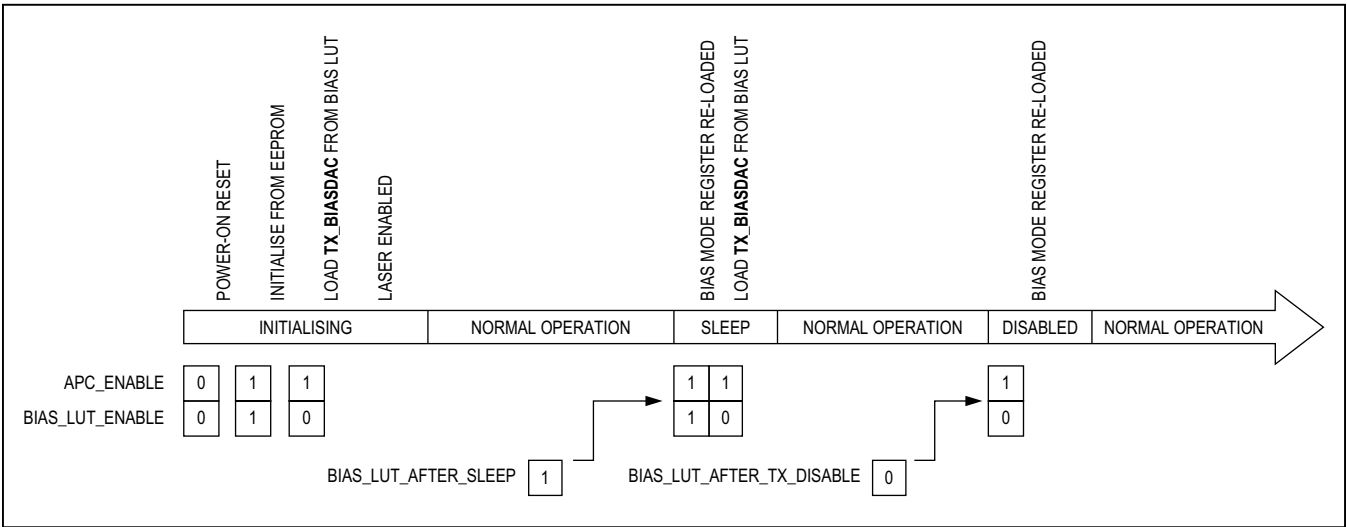

Figure 7. Behavior of the tx_biasmode Register in Closed-Loop Mode
- Thus, the required loop behavior when the laser is enabled can be independently configured for reset and tx disable. This is further illustrated in Figure 7.